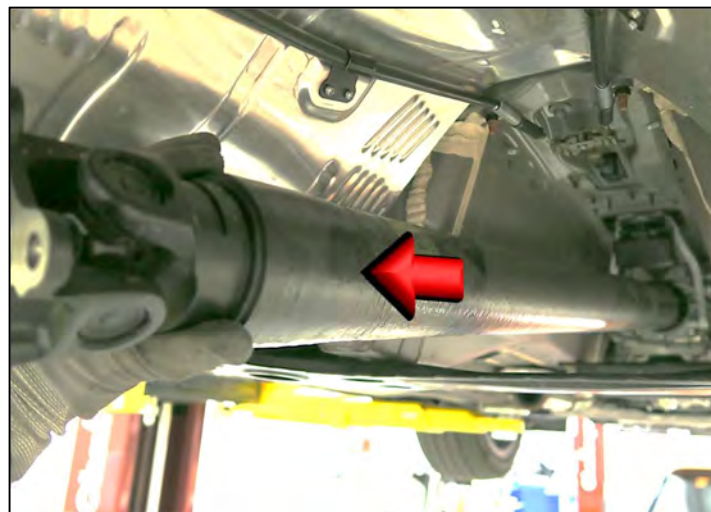

Figure 14
- Carefully slide the propeller shaft out of the transmission. (Figure 14)